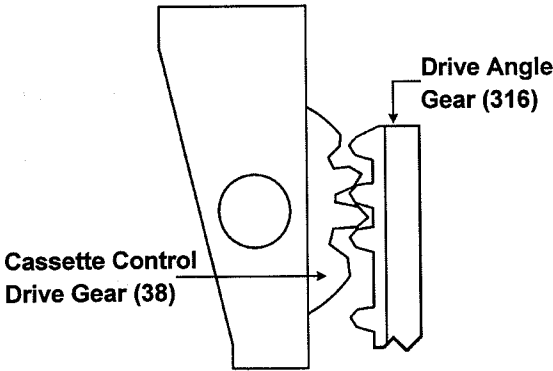

Figure 1
Align the Cassette Control Drive Gear (38) with the Drive Angle Gear (316) as shown in figure 1.